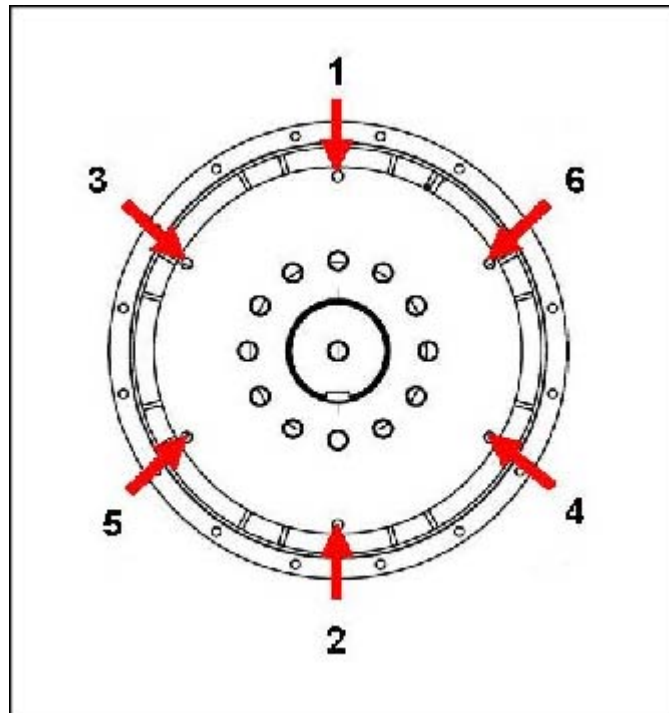

FIGURE 16. FIXING SEQUENCE TO FLYWHEEL
10. Tighten the bolts to fix the coupling disc to the flywheel, in the sequence shown in Figure 16 on page 29